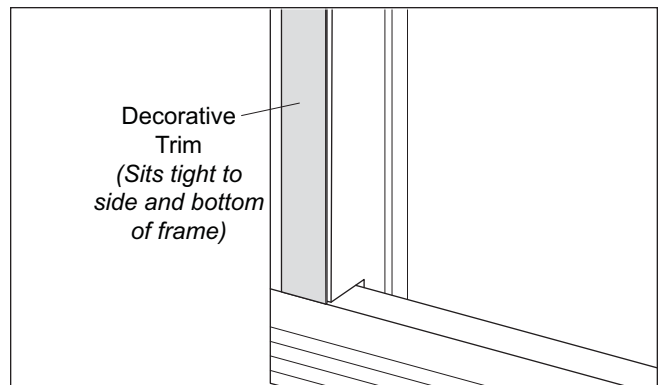

Figure 6. Decorative Trim / Frame Assembly
- Adhere the decorative trim panels to the side brackets so that they are tight to the side and bottom of the frame (See Figure 6).